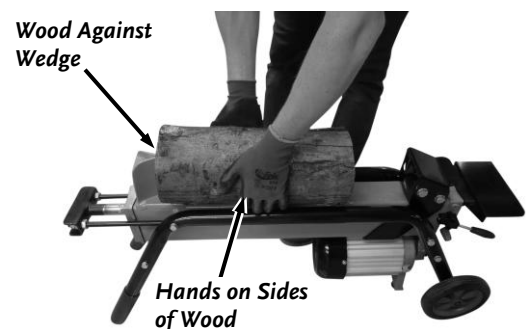

Figure 10
1. Grasp the log on the sides near the middle of the block as you place the log on the Log Splitter. (**Figure 10**). Center the log, side-to-side, on the rail of the Log Splitter, making sure that one end is against the Splitting Wedge.